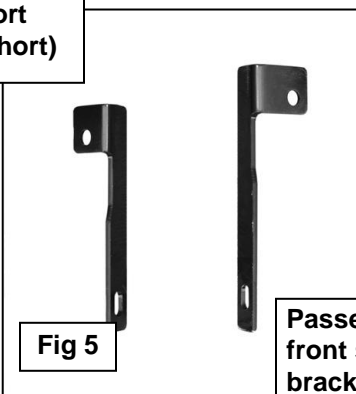
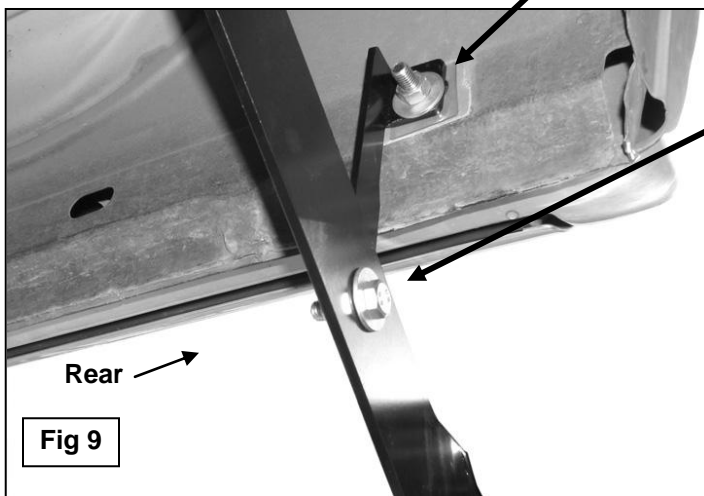

Fig 5
Fig 9
5. Locate the long passenger side front Support Bracket and attach it to the Bolt Plate with (1) 10mm Flat Washer, (1) 10mm Lock Washer and (1) 10mm Hex Nut, **(Figures 5 & 6)**. **NOTE:** Place Support Bracket against the front facing side of the Mounting Bracket with the bent tab facing towards the **front** of the vehicle. Snug but do not tighten hardware at this time.
8. Remove the tape covering the hole in the inner rocker panel and install (1) Bolt Plate as described in **Step 4**, **(see Figures 7 & 8)**. Select the short passenger side rear Support Bracket and attach it to the Bolt Plate with (1) 10mm Flat Washer, (1) 10mm Lock Washer and (1) 10mm Hex Nut, **(Figures 5 & 9)**. **NOTE:** Place Support Bracket against the front facing side of the Mounting Bracket with the bent tab facing towards the **rear** of the vehicle. Repeat **Step 6** to attach the lower end of the Support Bracket to the Mounting Bracket, **(Figure 9)**. Snug but do not tighten hardware at this time